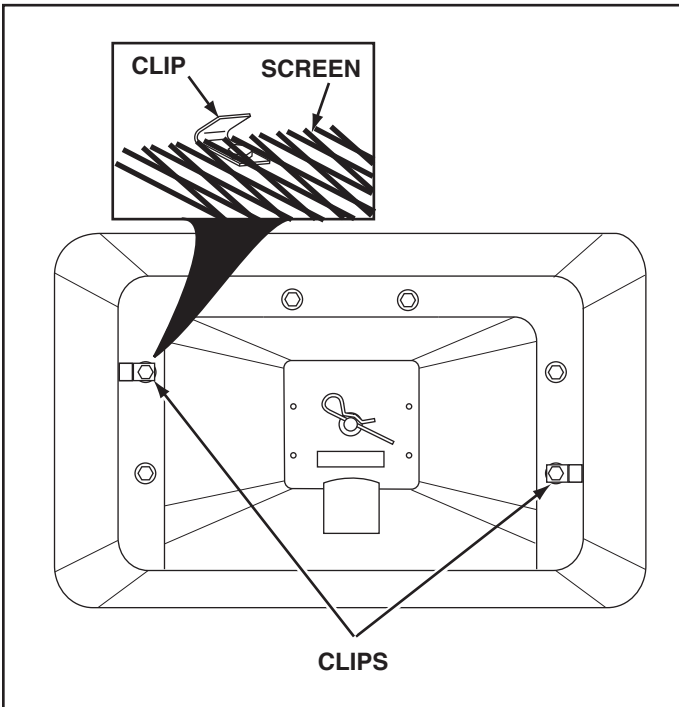

FIGURE 14
24. Place the screen down into the hopper, sliding the edge of the screen under one of the clips. Slightly bow the screen to slide the opposite side of the screen under the other clip. See figure 14.